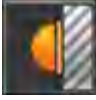

Figure 5-16
- 1: Fisheye: Click to adjust fisheye installation mode and display mode. See Figure 5-16. Please note this function is for some series only.
Fisheye de-warp interface is shown as in Figure 5-16.